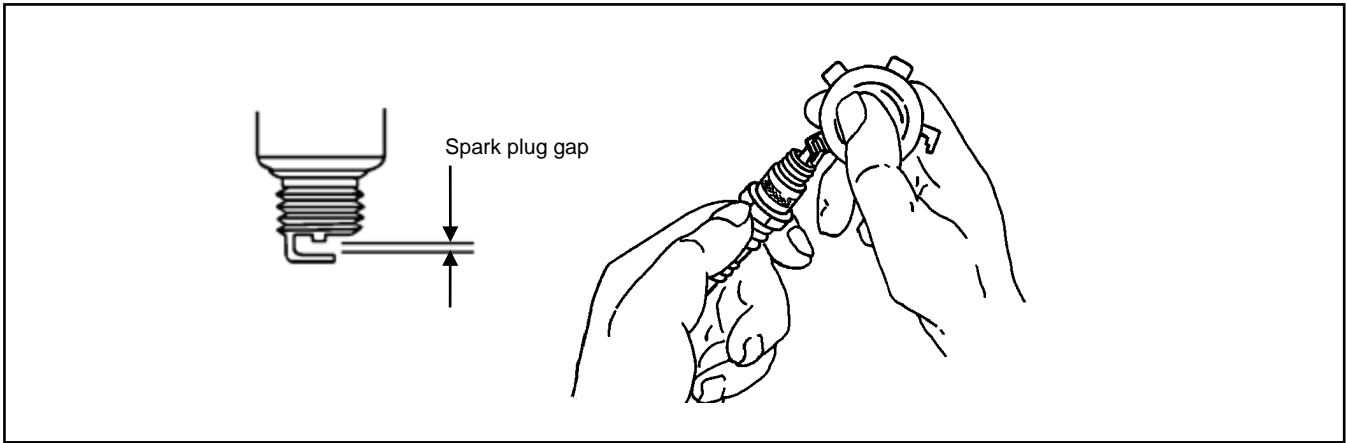

Figure 18 Spark Plug Gap
7. Use a spark plug gap tool to measure the gap on each spark plug. Adjust the gap to specification. See Figure 18.